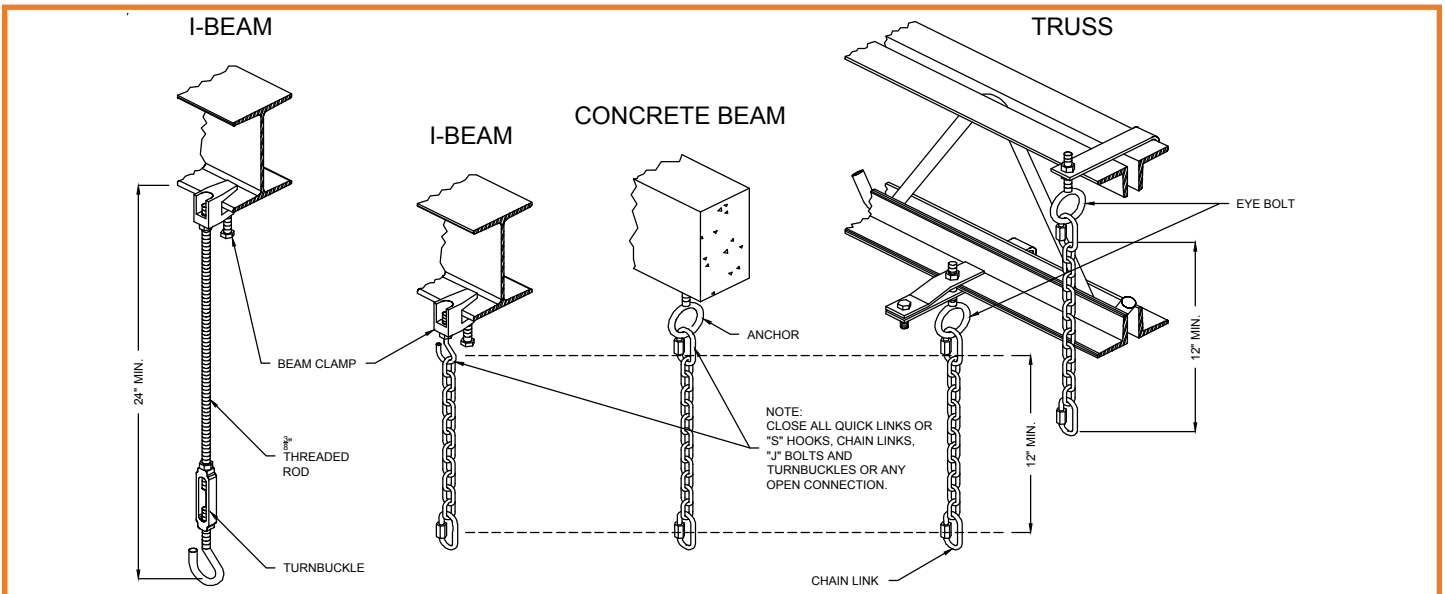
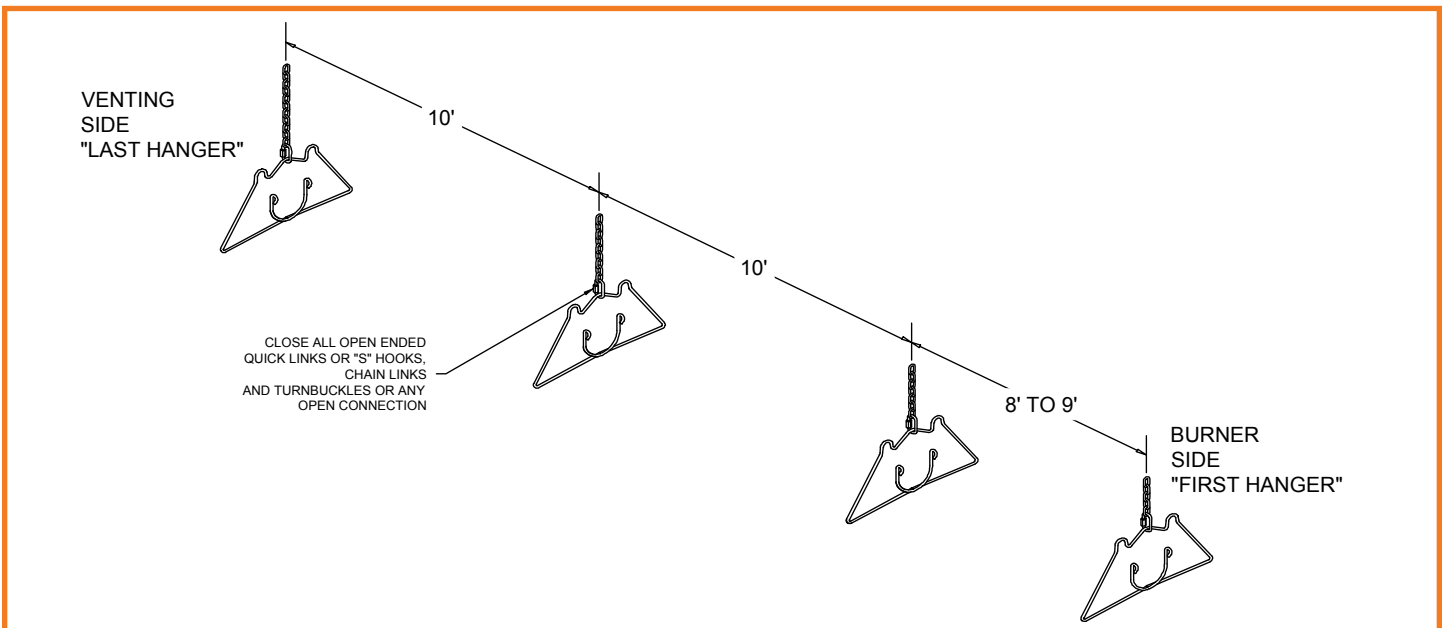
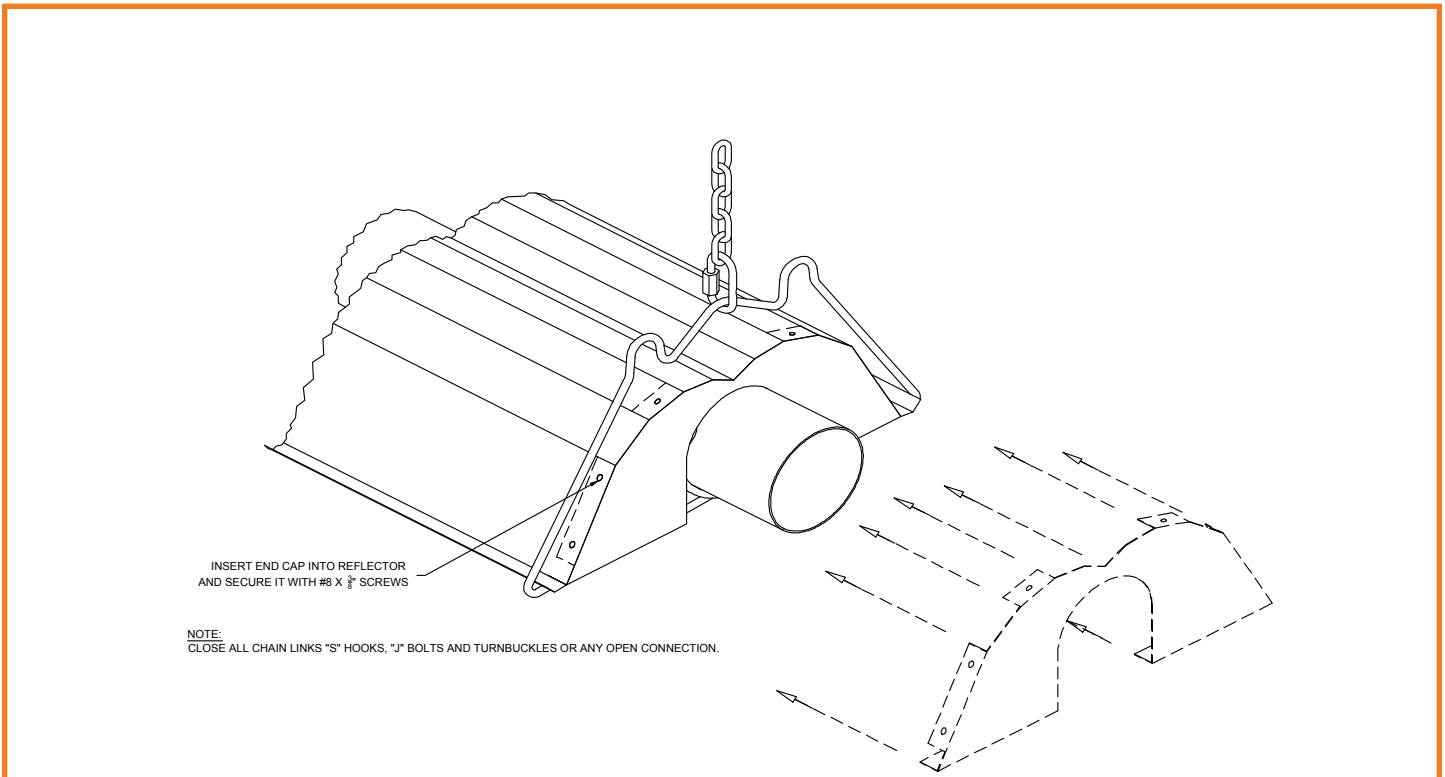

Figure 7: Suspension Mechanism
Figure 8: Typical Hanging Points
Figure 18: Reflector End Cap Installation
- The suspension mechanism must allow for lateral tubing expansion. A minimum 12" length welded link chain with a working load limit of at least 200 lbs. is recommended (refer to Figure 7 for more details). **Manufacturer recommends and makes available "quick links" for connecting chain. If any open ended "S" hooks and turnbuckles are used, the open ends must be closed to avoid unhooking chain with inadvertent contact.**
- Locate hanging chain at predetermined suspension points in the structure. It is required that the first 2 hangers be about 8' to 9' away. Thereafter, 10' apart on average is acceptable for the remainder of the heat exchanger. At no time should hangers be more than 12' apart, (see Figure 8).
- Install the tube and reflector support hanger on the chain with Quick Links or 'S' hooks refer to Figure 7 & Figure 8.
- Install End Cap as shown in Figure 7 and Figure 18
- **Note:** Elbows or U-bends are typically installed without reflectors. To reduce the above clearance to combustibles distance use miter reflectors (see Figure 18) and refer to *Clearance to Combustibles* information.